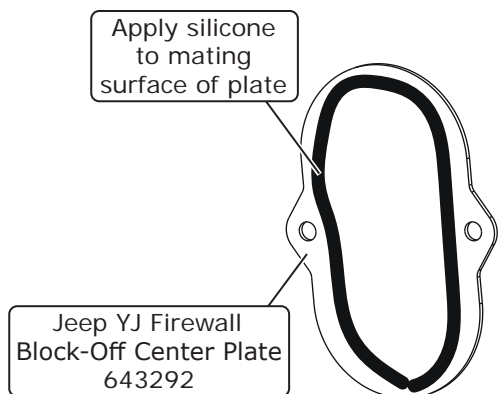

Figure 2
5. Apply silicone to the mating surface of the plate (See Figure 2, below), then secure it onto the firewall using (2) #10 x 1/2" sheet metal screws (See Photo 7, below).